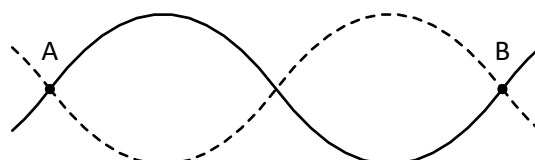

Fig. 1
When a wire is stretched between two points A and B and is made to vibrate, stationary waves can be set up on the wire. A possible shape (mode of vibration) for the stationary waves is shown in Fig. 1.
4. Slowly increase the frequency of the function generator starting from 0 Hz until a stationary wave of 2 loops with a large amplitude (Fig. 1) is formed.
11. **Before collecting any data, check that the load allows all wires to produce the stationary wave shown in Fig. 1.**